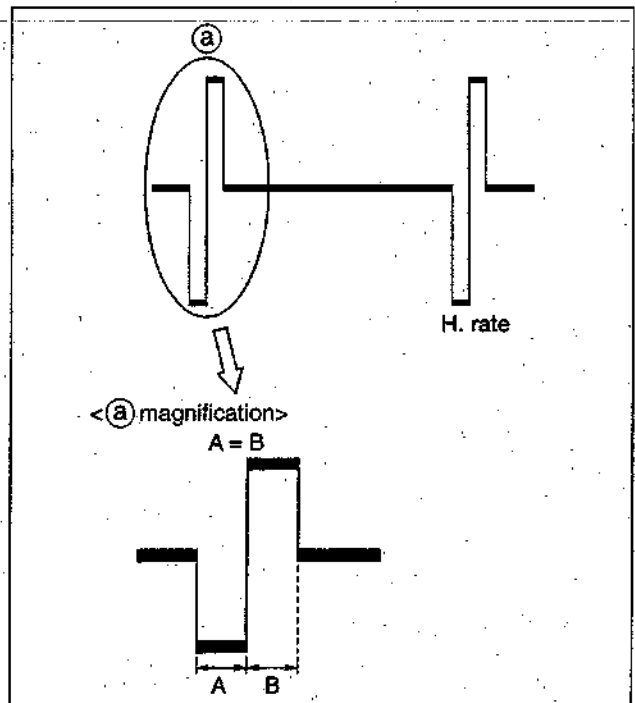

Fig. 3-3-2 PLL (VF)
- 2) For the waveform shown in the waveform chart (Fig. 3-3-2), equalize the width of A and B with each other by adjusting R7436.